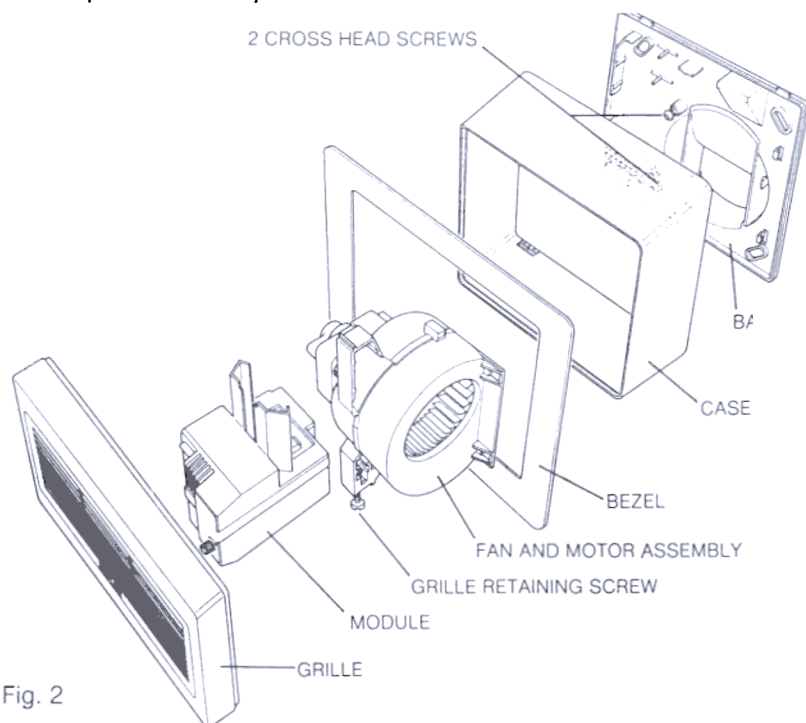

Fig. 2
5.1 Dismantle the unit by first undoing the slotted screw on the underside of the grille a few turns and removing the grille by pivoting it about its top edge. Remove the module by lifting and pulling it out. Release the fan and motor assembly by undoing the two cross-headed screws several turns and sliding the assembly to the right (see Fig. 2). To ease installation it is best to spring the backplate out of the case.
7.4 Dismantle the unit (see Section 5.1 and Fig. 2).
8.4 Dismantle the unit (see Section 5.1 and Fig. 2). For this installation it is best not to separate the case and backplate.